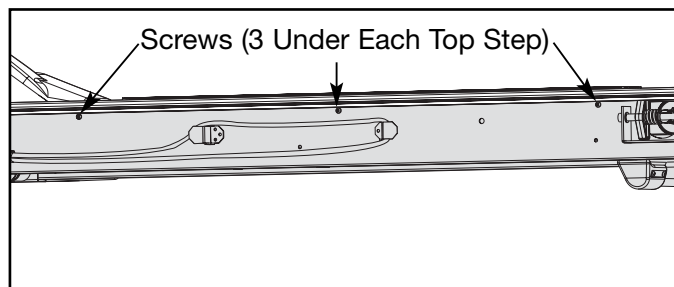

Figure 4
- A.** Using a Phillips head screwdriver, remove the three screws that hold each top step in place. See Figure 4.
- A. Place each top step in position. See Figure 4.
- B. Using a Phillips head screwdriver, tighten the three screws that hold each top step in place. See Figure 4.